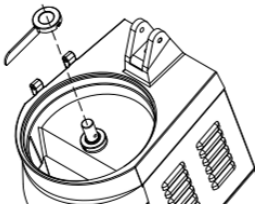

Fig. 9 - Installation of sweeper
- Put the sweeper on the shaft of the cutting disk (fig. 9).